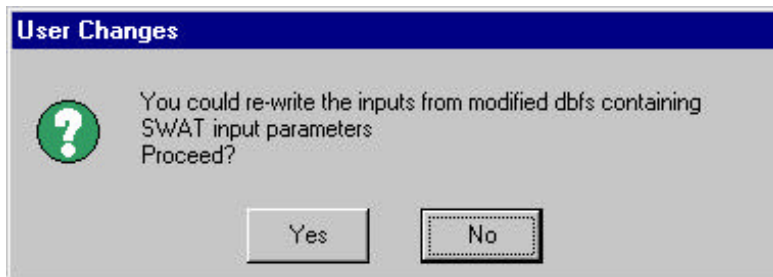

Figure 13.22
5. When the preprocessing is successfully completed, a message box is displayed (Figure 13.22).